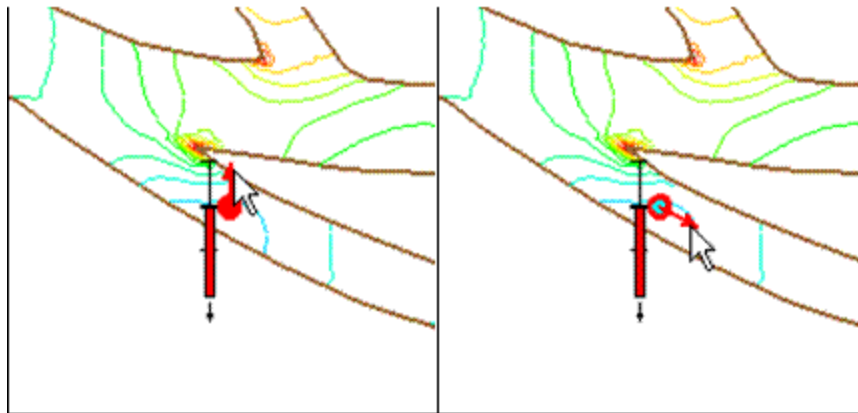

Figure 2 "Point 1" with an arrow angle of 0° and then rotated to 120°
3. Select the observation point arrow and rotate the point arrow approximately 120° by dragging the end of the arrow clockwise. Do not worry if this angle is not exactly 120°. The arrow just needs to be pointing in the general direction the velocity meter was set up in the field. This is usually in the direction of flow. Figure 2 shows a close-up of “Point 1” with the arrow pointing up (0° angle) and then the position of the arrow at an angle of approximately 120°.